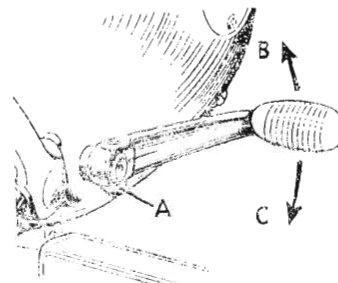

FIGURE 5.
Neutral position is between first and second gears, and downward movement (C) FIG. 5, of the lever selects a lower gear, whilst an upward movement (B) selects a higher one. The pedal can be repositioned as required after releasing its pinch bolt (A).